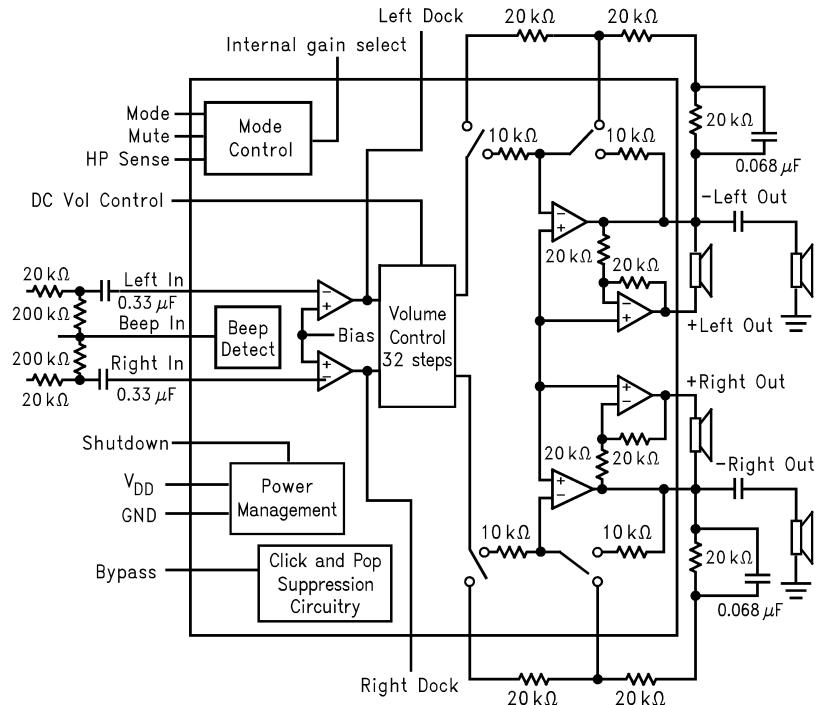

Figure 1. LM4838 Block Diagram
- (1) All voltages are measured with respect to the ground pins, unless otherwise specified. All specifications are tested using the typical application as shown in Figure 1.
- (2) *Absolute Maximum Ratings* indicate limits beyond which damage to the device may occur. *Operating Ratings* indicate conditions for which the device is functional, but do not ensure specific performance limits. *Electrical Characteristics* state DC and AC electrical specifications under particular test conditions which ensure specific performance limits. This assumes that the device is within the Operating Ratings. Specifications are not ensured for parameters where no limit is given, however, the typical value is a good indication of device performance.
- (3) Typicals are measured at  $25^\circ C$  and represent the parametric norm.
- (4) Limits are specified to TI's AOQL (Average Outgoing Quality Level). Datasheet min/max specification limits are ensured by design, test, or statistical analysis.